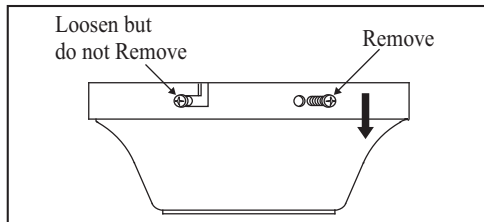

Figure 6
2. Remove the mounting bracket from the canopy by loosening the four screws on the top of the canopy. Remove the two non-slotted screws and loosen the slotted screws (Figure 6).